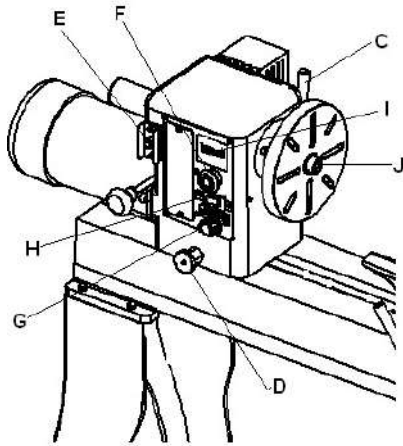

FIG. 3
1. **Headstock Lock Handle:** (C, Fig. 3) Locks head in position. Unlock handle to position the head along lathe bed. Tighten handle when properly positioned.
2. **Headstock Indexing Pin:** (D, Fig. 3) Turn the knurled knob counter-clockwise to unlock the plunger. Pull the knob out to release the headstock. Unlock the headstock locking handle and rotate the headstock. Turn knurled knob clockwise until it stops to lock plunger.
3. **Headstock Spindle Lock:** (E, Fig. 3) Push pin in to keep the spindle from turning.
4. **Headstock On/Off Button:** (F, Fig.3) Pull the button out to turn "ON" the lathe. Push the button in to turn the lathe "OFF".
5. **Headstock RPM Knob:** (G, Fig. 3) Turn knob to desired RPM. There are two speed ranges offering "speed" (0-3200) and "torque" (0-1200).
6. **Headstock For/Rev Switch:** (H, Fig. 3) Use the toggle switch to change the direction the spindle turns. Only change direction when the spindle has stopped.
7. **Headstock RPM Readout:** (I, Fig. 3) Displays the spindles RPM, see Figure 4.
8. **Headstock Spur Center:** (J, Fig. 3) Used for turning between centers. Spindle taper is MT-2. Remove spur center by inserting drift rod through the opposite end of the spindle and knocking spur center out.
9. **Headstock Faceplate:** (K, Fig. 3) Used for turning bowls and plates. There are a number of screw holes for mounting the work piece. Thread the faceplate onto the spindle in a clockwise direction, and tighten two set screws. Remove the faceplate by loosening two set screws. Push in headstock spindle lock and use the provided rod in faceplate holes to unthread the faceplate.